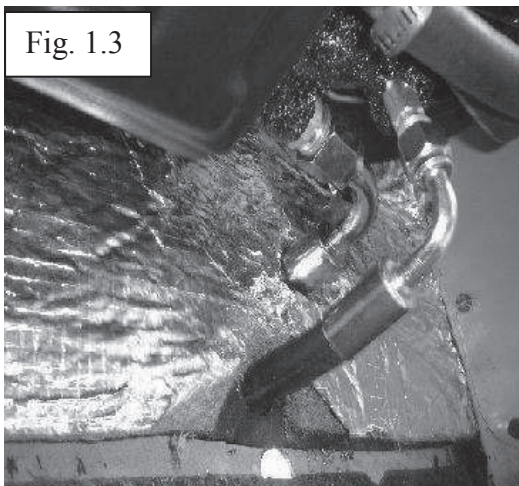

Fig. 1.3
- 7) Prior to installing the a/c lines find a location in the firewall to run the hoses through. Select according to which side of the unit the fittings are on and which side of the engine the compressor is on. Be sure to use the grommets to protect the hoses when running them through the firewall. The grommets will require a 1-1/4" hole, unless it is a large single grommet for both hoses. Our recommendation for the firewall holes is as follows: Mount the unit in its mounting location. Take the # 6 (5/16" hose) and the # 10 (1/2" hose) and push a 90 degree fitting into each. Attach the fittings (finger tight) to the evaporator. If the hoses will run straight back to the firewall without any kinks make a small mark where the hose meets the firewall, Figure 1.3. That will be the location for the grommet. If the hose is kinked or tight try a straight fitting on the evaporator connection. We do carry many fittings if a 45 or 180 degree is needed please contact us.